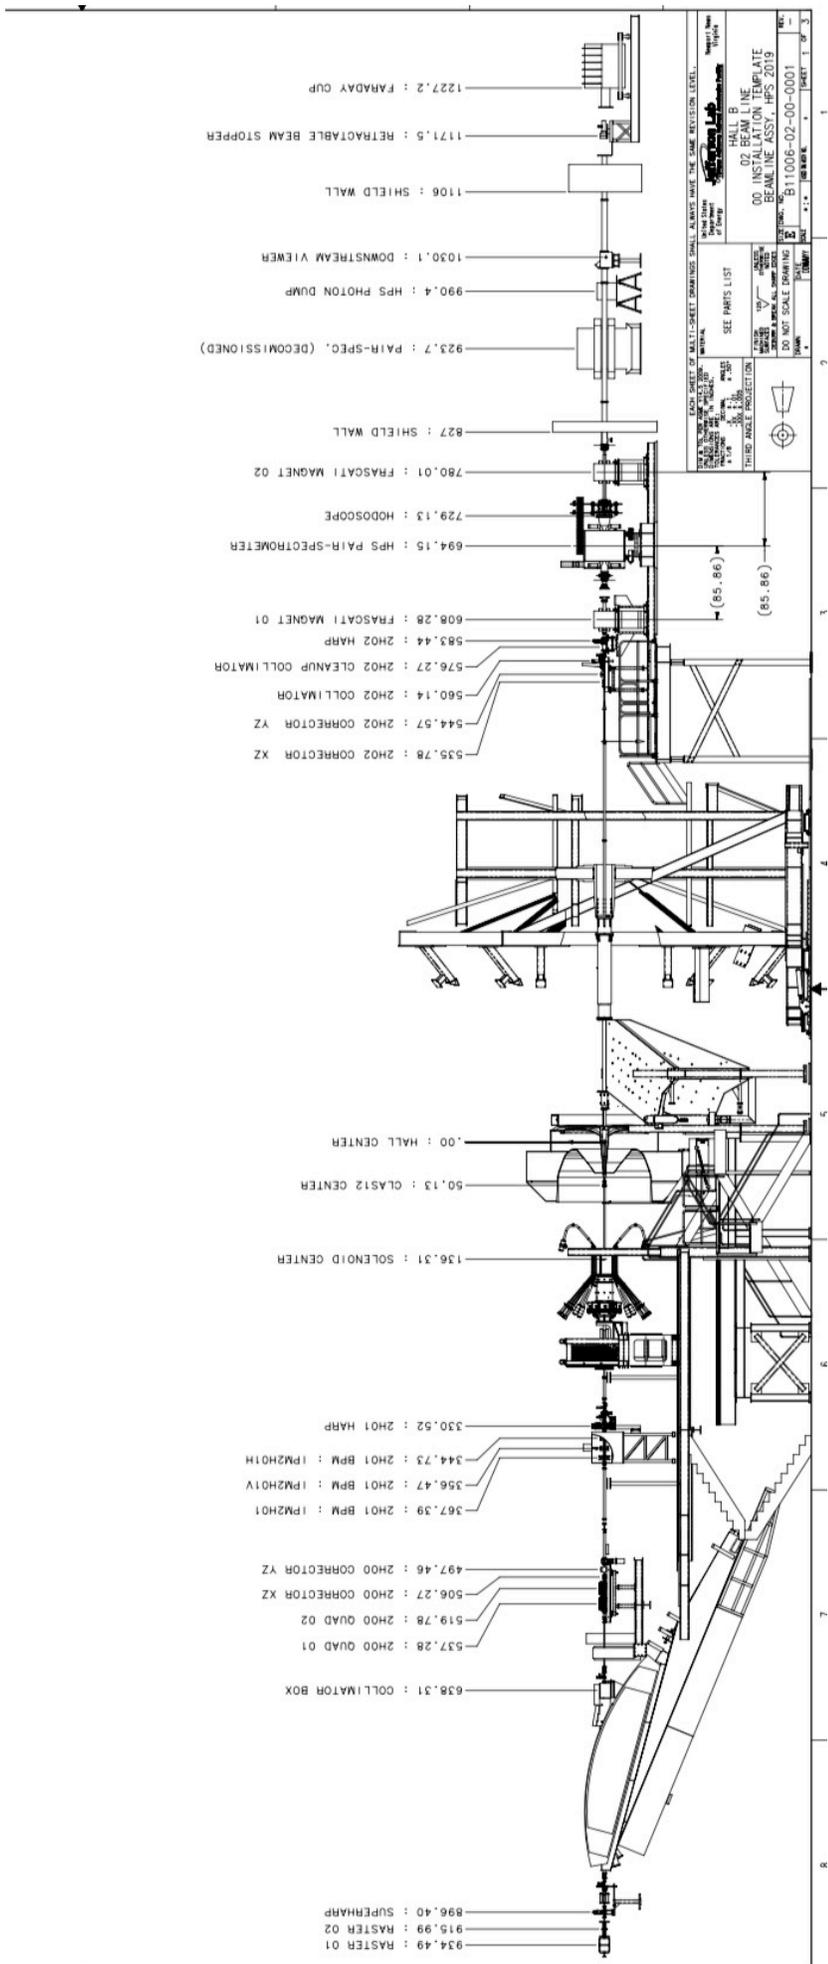

Figure 6. Beamline in the Hall.
**For location of beam line element please consult beamline drawings on Figure 5 and Figure 6 in Appendix.**